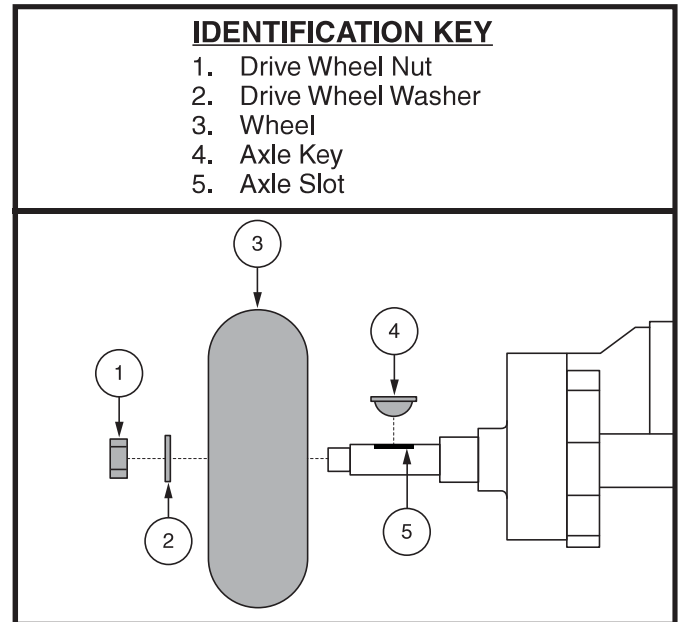

Figure 34. Wheel Replacement
3. Remove the drive wheel nut and washer from the axle. See figure 34.